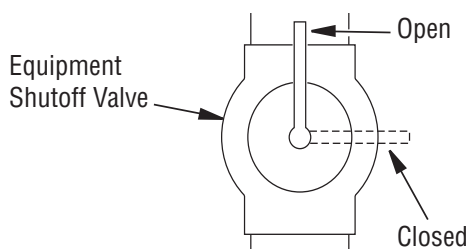

Figure 17 - Equipment Shutoff Valve
1. Close equipment shutoff valve (see **Figure 17, Page 13**).
1. Open equipment shutoff valve (see **Figure 17**).